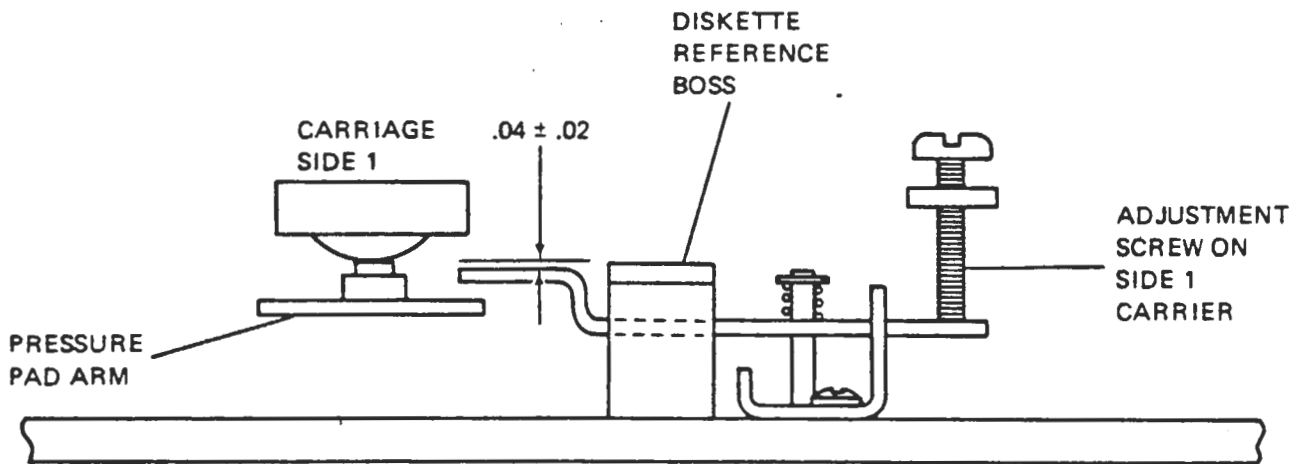

Figure 6-16. Head Pressure Arm Retract Mechanism (Side 1)
- d. The mechanism as viewed in this manner should appear as shown in Figure 6-16.
- c. Observe the position of the retract mechanism as viewed through the diskette aperture in the bezel. (Figure 6-16)